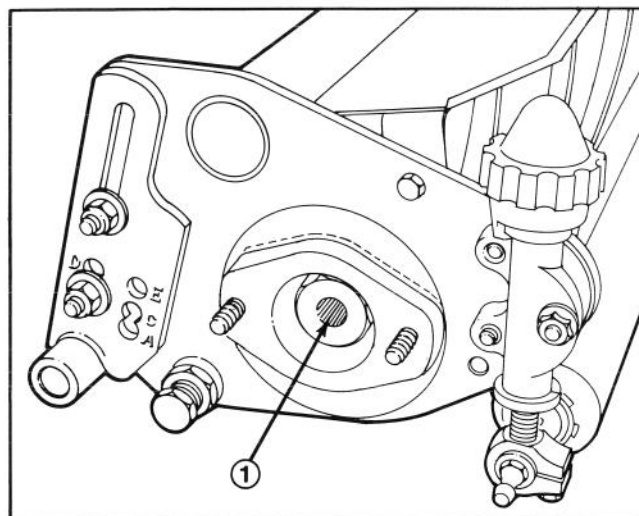

Figure 5
4. On the right side, remove and discard the spline nut (1-1/4" socket required). Install the new spline nut and torque to 45-55 ft.-lb. (Fig. 5). Check to ensure drag on the reel bearing is 7-11 in.-lb; refer to cutting unit operator's manual for proper drag set procedures.